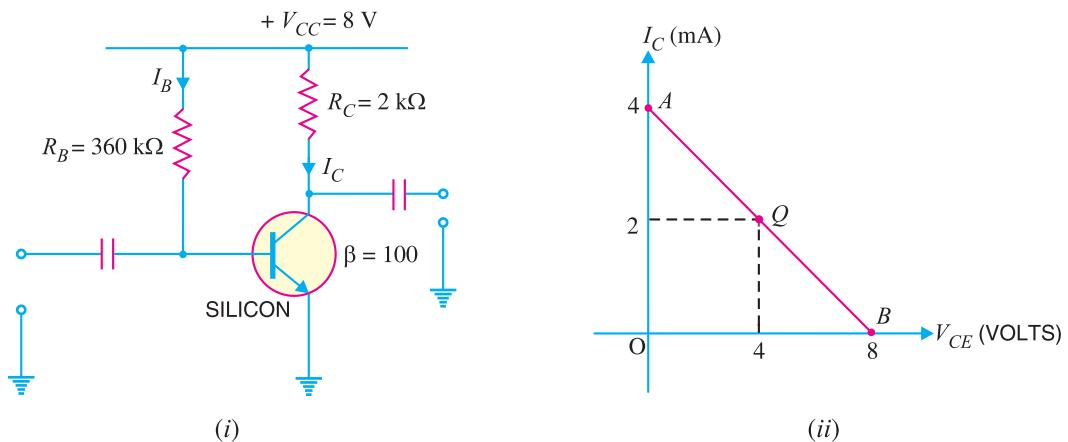

Fig. 9.38
**Example 9.30.** Determine whether or not the circuit shown in Fig. 9.38 (i) is midpoint biased.
This locates the point  $B$  ( $OB = 8\text{ V}$ ) of the dc load line. By joining these two points, dc load line  $AB$  is constructed [See Fig. 9.38 (ii)].
**Operating point.** Referring to Fig. 9.38 (i), we have,